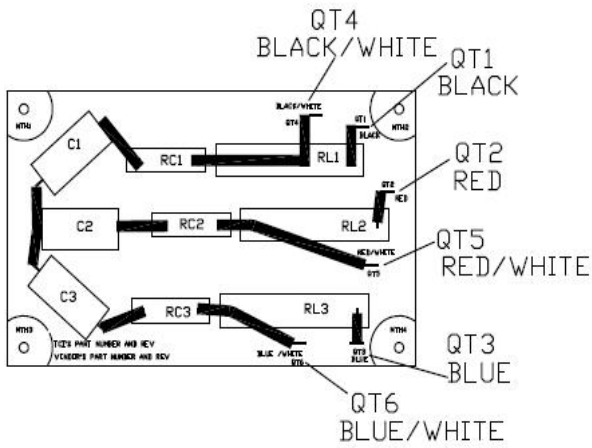

Figure 5- V1K RC board
2. Remove all leads to the RC circuit board from the reactor (refer to Figure 5 for image of RC circuit board). **WARNING: if RC board is not disconnected from the reactor it may be damaged during test.**